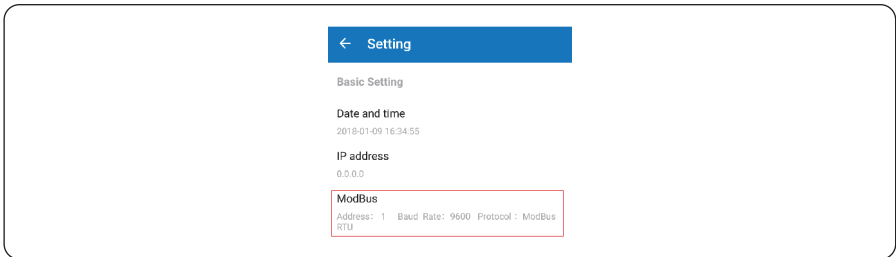

Figure 5.22 Check the Modbus address
**Step 3** Check the Modbus address in Figure 5.22, the default address is 1, long click to revise the address and save it, the inverter at same RS485 bus must be set a unique address.